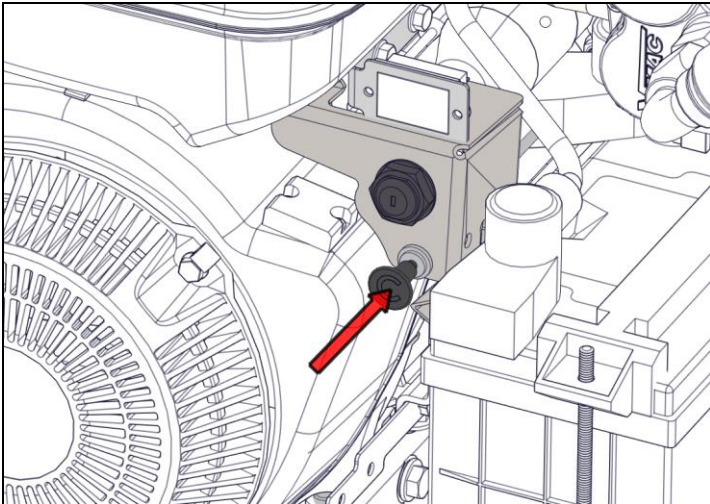

Figure 20 - Choke
- 3) Once running, push the choke to the “OFF” position (Figure 20).